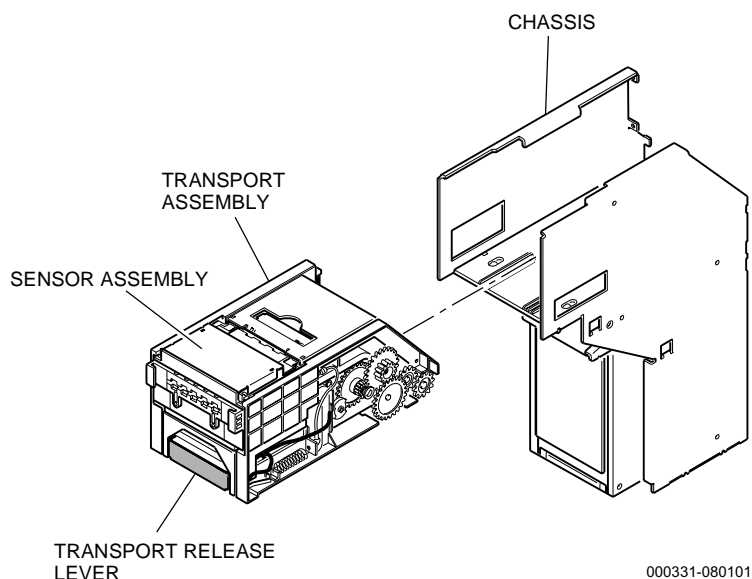

Figure 7-5. Sensor and Transport Assembly Removal
See Figure 7-5 and proceed as follows to remove or install the sensor and transport assembly from the acceptor chassis.
1. Orient the sensor/transport assembly as shown in Figure 7-5. Carefully push the sensor/transport assembly into the acceptor chassis. Verify that the assembly snaps into place in the chassis.